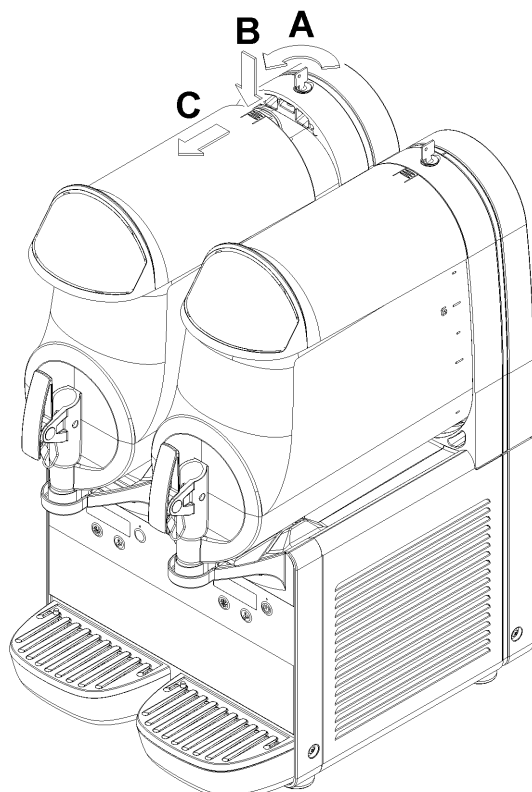

figure 2
To remove the lid of the container, press the top key and slide the lid towards the front of the container. If there is a safety lock for the lid, turn the key in an anti-clockwise direction to release the open key (see figure 2).
**1** To remove the lid of the container, press the top button and slide the lid towards the front of the container. If there is a safety lock for the lid, turn the key in an anti-clockwise direction to release the open button (see figure 2).